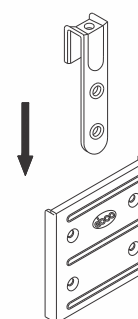

Fig.5
3. Hook cabinet onto Bracket (Refer Fig. 5).